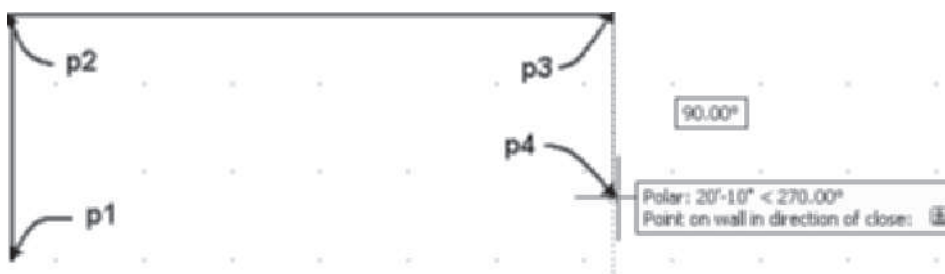

FIGURE 2.65 Location of points for wall segments
9. Move the pointer from the Properties palette, and begin drawing the walls using direct distance entry and typing the distances in the workspace as shown in the following workspace prompts and in Figure 2.65.
Start point or: 75',40'[24000,12000] ENTER (*Point p1 is established as shown in Figure 2.65.*)
Point on wall in direction of close: (Move the pointer down to Auto Track tooltip Polar Tracking angle = 270° and select a point near **p4** as shown in Figure 2.65.)